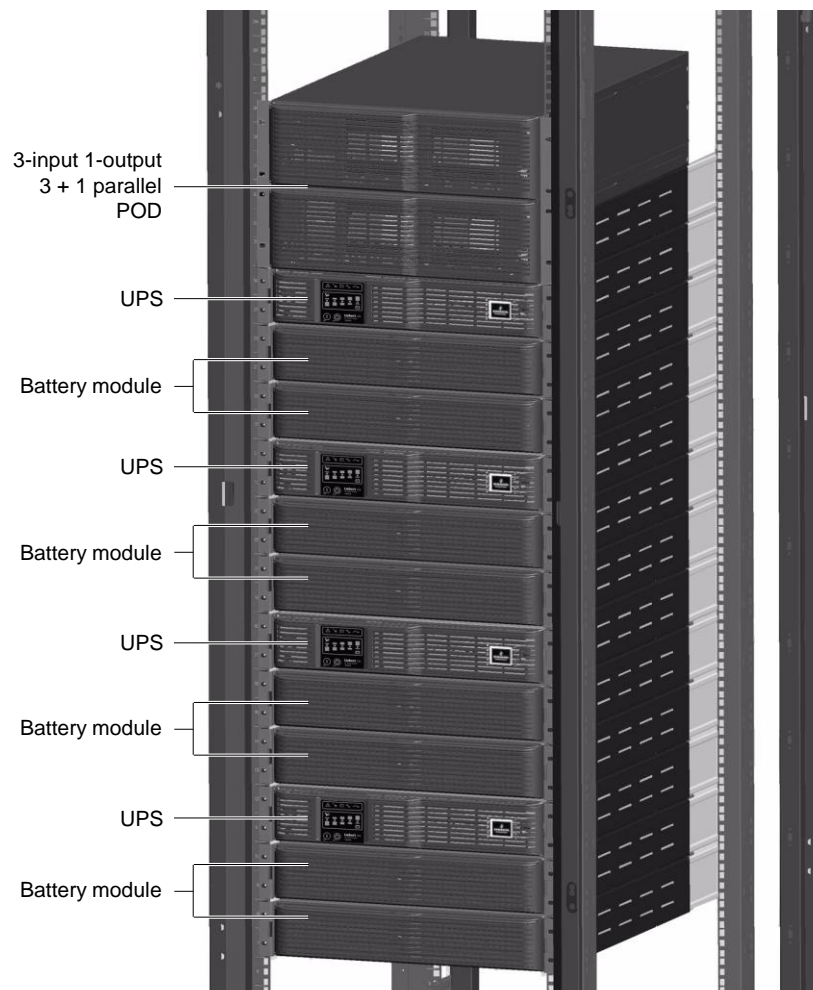

Figure 3-1 Installation of the 3 + 1 parallel system with battery modules
2. As shown in Figure 3-1, to facilitate the cable connection and operation, the battery module should be installed at the bottom; the UPS and the battery module should be installed in turn, and the POD should be installed on the top.